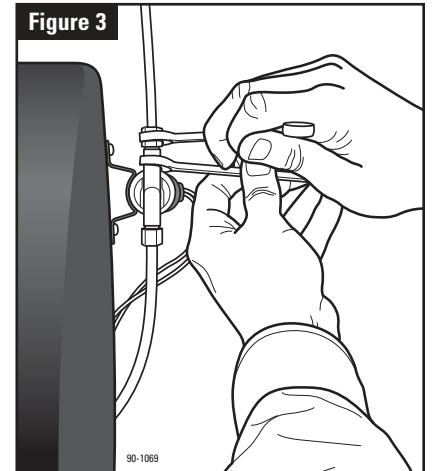

Figure 3
10. Connect tubing from the saddle valve to the inlet side of the solenoid valve using 1/4" O.D. copper tubing (not furnished). **DOUBLE WRENCH AS SHOWN IN FIGURE 3 TO PREVENT DAMAGE TO VALVE BRACKET AND ENSURE WATERTIGHT CONNECTION.**